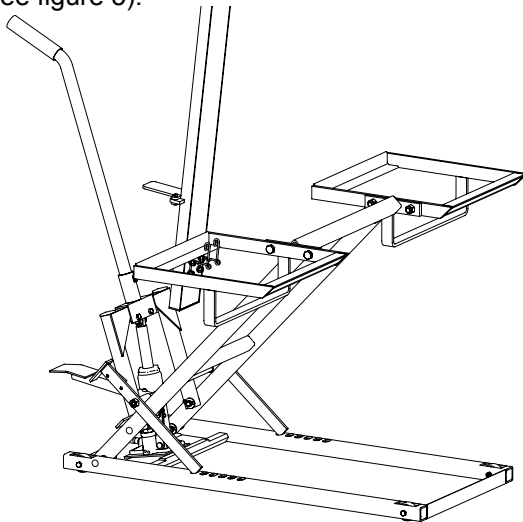
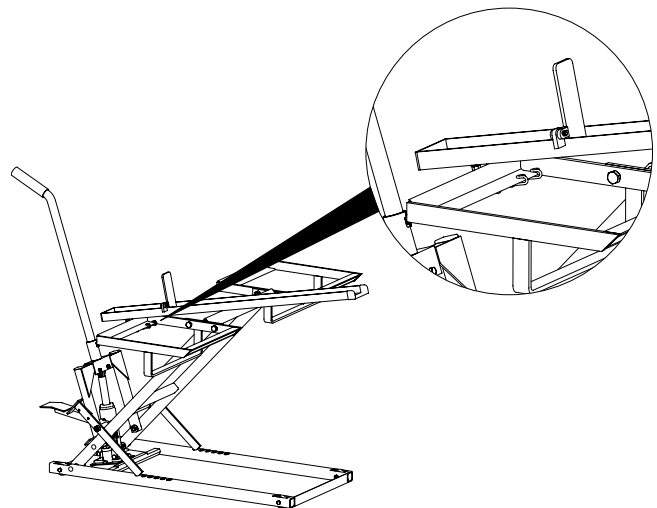

Figure 4 - Beginning of rotation
Figure 5 - Attachment Springs catching at end of rotation
4. Make sure the springs are against the wheel bracket and rotate the track around towards the front of the lift (see figure 4). As the wheel tracks are rotated, the attachment spring should catch the back of the wheel bracket (see figure 5).